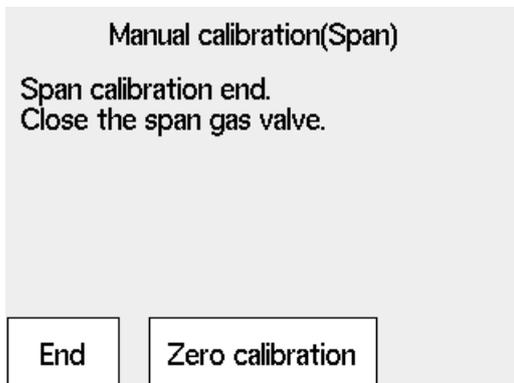

Figure 7.19 Span Calibration Complete
- (5) After the measured value has stabilized, press the [Enter]. The screen of Figure 7.19 appears. At this point, the measured value is corrected to equal the span gas concentration setting. Close the span gas flow valve. The valve lock nut should be tightened completely so that the span gas does not leak.